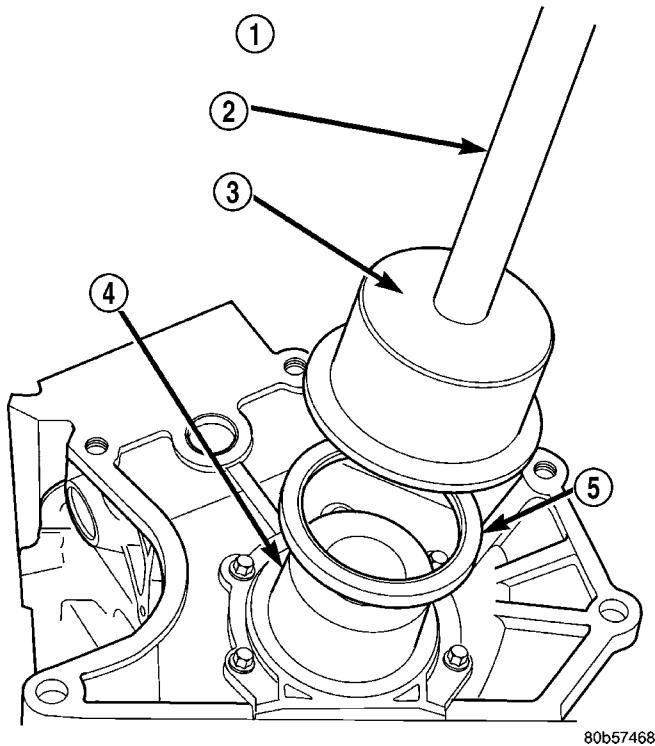

Fig. 82 Rear Crankshaft Oil Seal—Installation
(1) Place Special Tool 6926-1 magnetic pilot tool on crankshaft (Fig. 82).
(2) Place seal over Special Tool 6926-1 Pilot. Using Special Tool 6926-2 Installer with C-4171 Handle, drive seal into the retainer housing (Fig. 82).
(3) Install the flex plate. (Refer to 9 - ENGINE/ENGINE BLOCK/FLEX PLATE - INSTALLATION)
(4) Install transaxle. Refer to TRANSAXLE AND POWER TRANSFER UNIT for procedure.